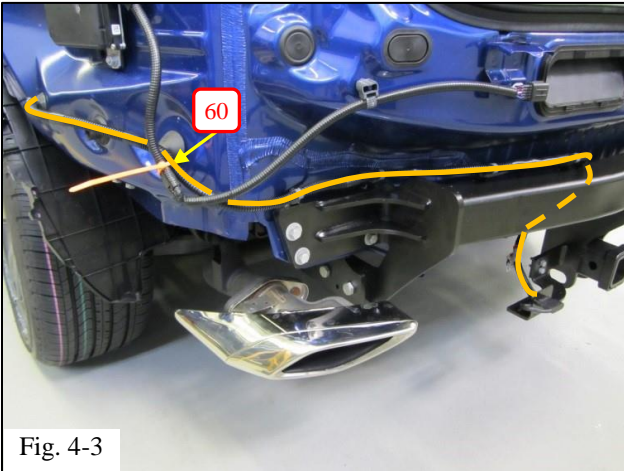
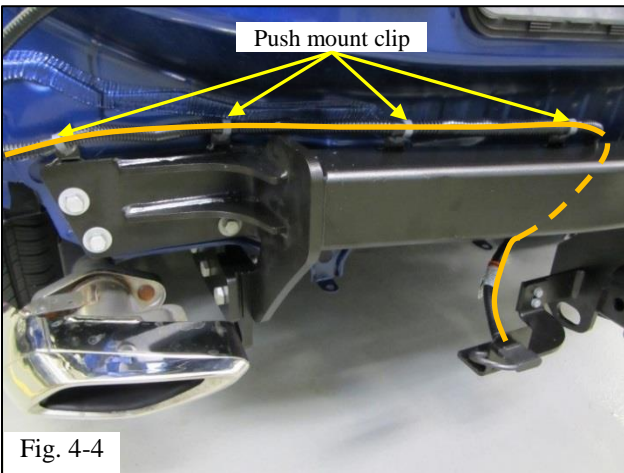

Fig. 4-3
Fig. 4-4
- (d) Secure the sub-wire to the hitch by inserting all four push mount clips to the tabs on top of the hitch (Fig. 4-3 and Fig. 4-4).
- (e) Secure the trailer sub-wire harness to the vehicle wire harness with one wire tie (Fig. 4-3).
- (f) Insert the trailer connector (4-Flat) to the bracket mounted on the hitch support (Fig. 4-4).